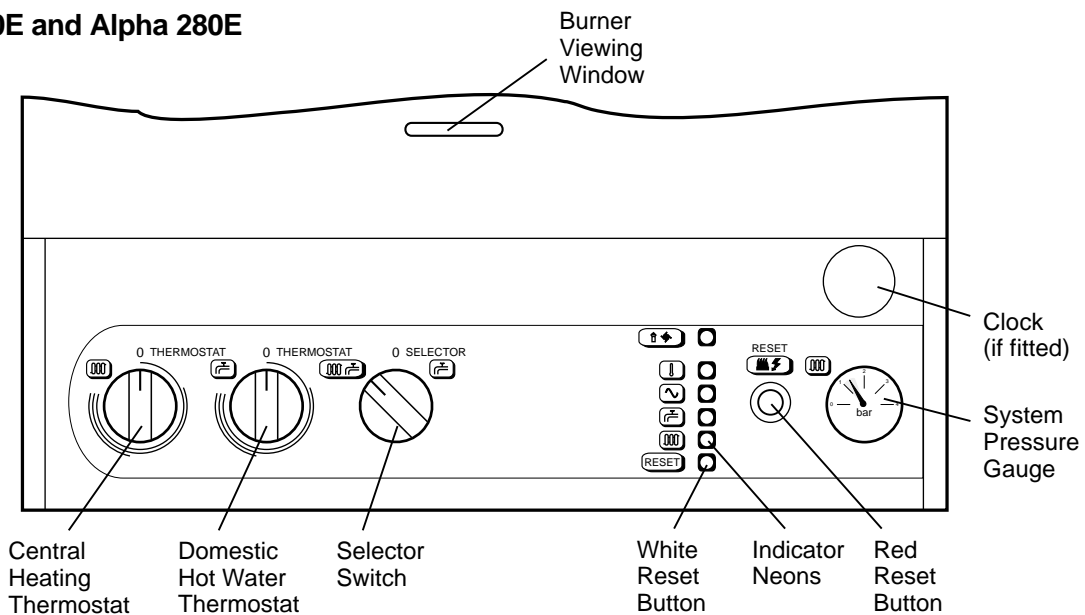

Fig. 1
-  Overheat thermostat has operated - press **white** reset button (see Fig. 1) to reset (not applicable to Alpha 240P and 280P).
When the red reset button () is illuminated on the Alpha 240E and 280E it indicates that the burner has failed to light - Press the **red** reset button (see Fig. 1) and the ignition sequence will restart (not applicable to Alpha 240P and 280P).
This thermostat automatically switches the boiler off in the unlikely event of the boiler overheating. When the thermostat operates on the Alpha 240P/ 280P it turns the pilot off, when it operates on the 240E/280E the  neon is illuminated. Press the white reset button (see Fig. 1) and the ignition sequence will restart automatically on the 240E/280E, for the 240P/280P the pilot will have to be relit. Refer to the lighting instruction in section 4.
Refer to Fig. 1 for boiler controls.